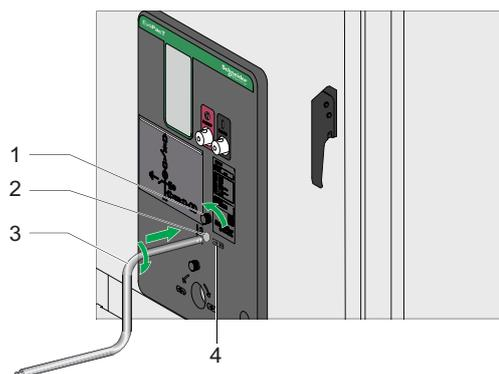

Figure 39
The position indicator of the energy-storing device indicates the charged condition (4). Refer to Figure 39.
1. Rotate the knob (1) counter-clockwise to access the manual charging of the gear box (2). Refer to Figure 39.
2. Insert the crank handle (3) into the guide (2).
3. Turn the crank handle (3) clockwise, until complete charging of the mechanism.